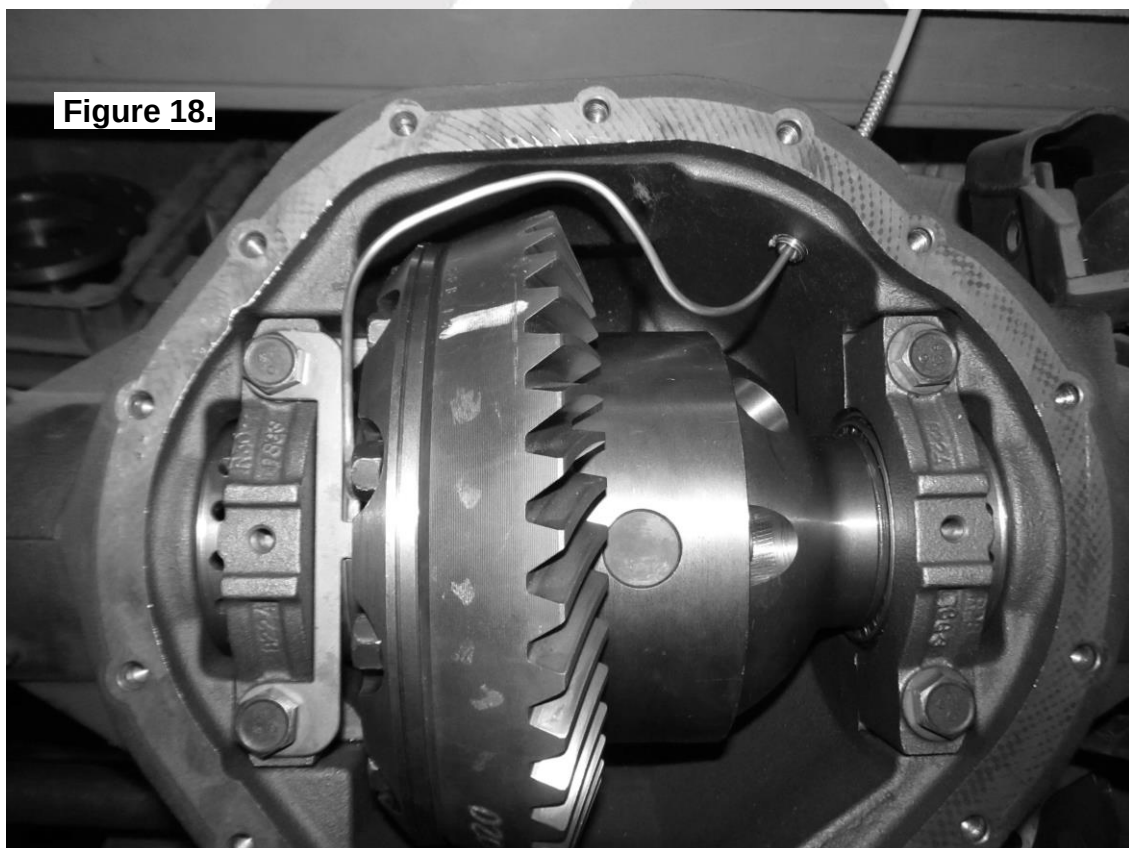

Figure 18.
- ☐ Gently bend the seal housing tube into a profile that protrudes through the bulkhead port and doesn't pull at all on the seal housing. (see Fig.18.)